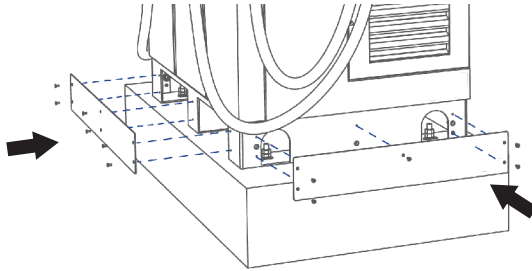

Figure 16. Base Cover Install
4) Attach the base cover (in the accessory pack) to the EVSE. See Figure 16